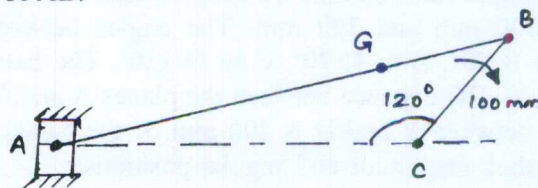

Fig.Q3
- 3 An engine mechanism is shown in Fig.Q3. The crank CB = 100 mm and the connecting rod BA = 300 mm. With centre of gravity G, 100 mm from B. In the position shown, the crankshaft has a speed of 75 rad/s and an angular acceleration of 1200 rad/s². Find velocity of G and angular velocity of AB, and acceleration of G and angular acceleration of AB.